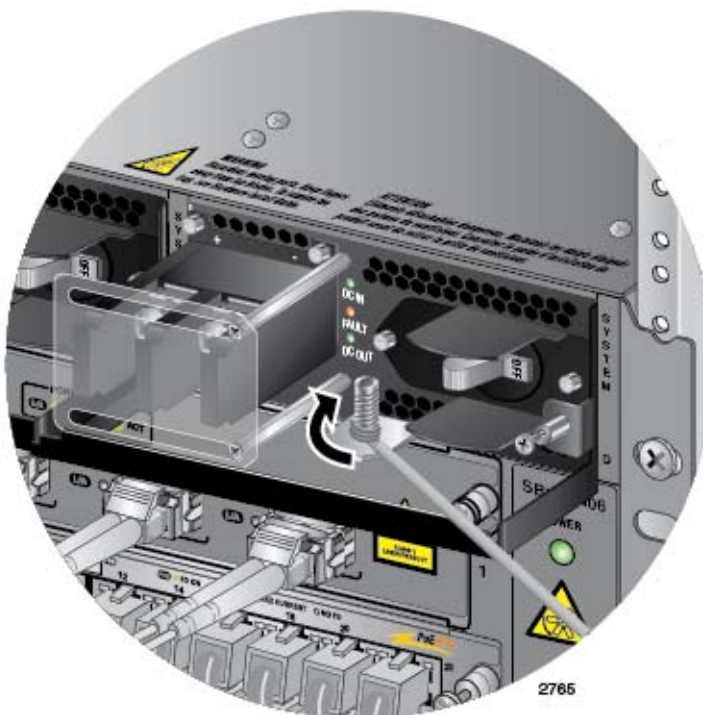

Figure 132. Attaching the Bare Grounding Wire to the Grounding Post
3. Wrap the grounding wire clockwise around the base of the grounding post, as shown in Figure 132.